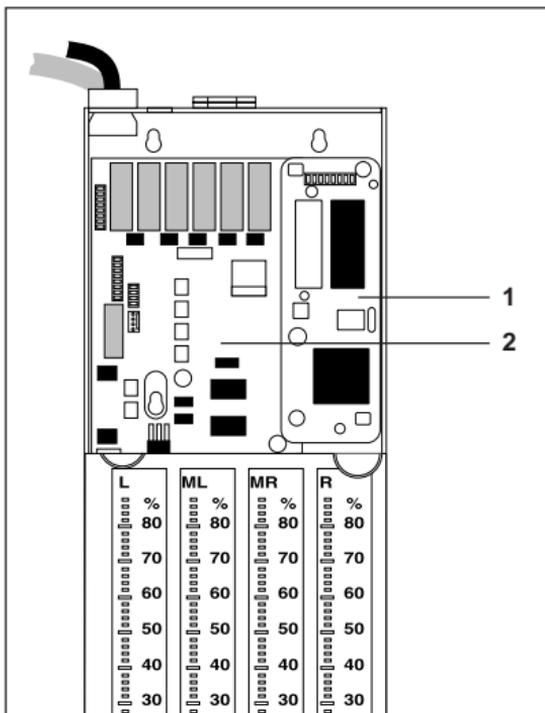

Fig. 5: Installing the internal audit module
- 2 Use the plug-in connector **1** on the rear of the PCB to plug the audit module into the right-hand side of the main PCB **2**. The audit module is now connected to the changer via the 12-V supply line and four data lines for serial communication (see Fig. 5).
- 3 Screw on the audit module using the fastening holes provided (see Fig. 5).